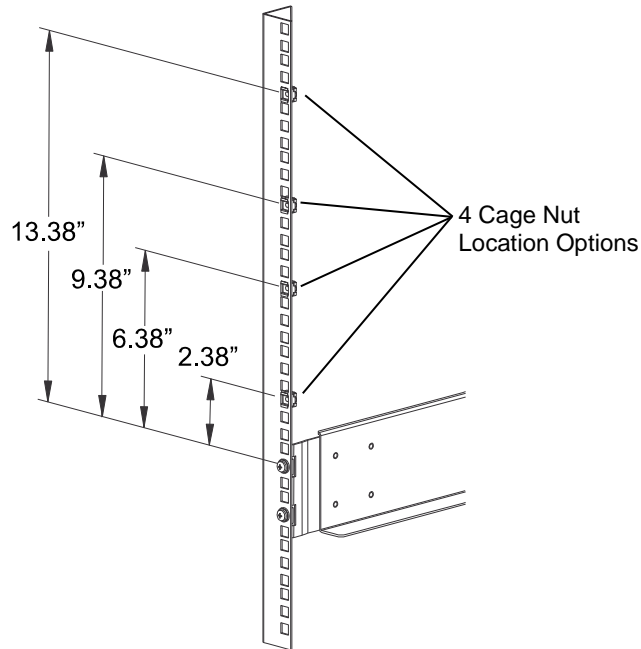

Figure 5-5 Cage Nuts location options in a Rack Post
10. Using either a tape measure or by counting holes in the rack posts insert one of the supplied cage nuts into the left front rack post as shown in Figure 5-5.